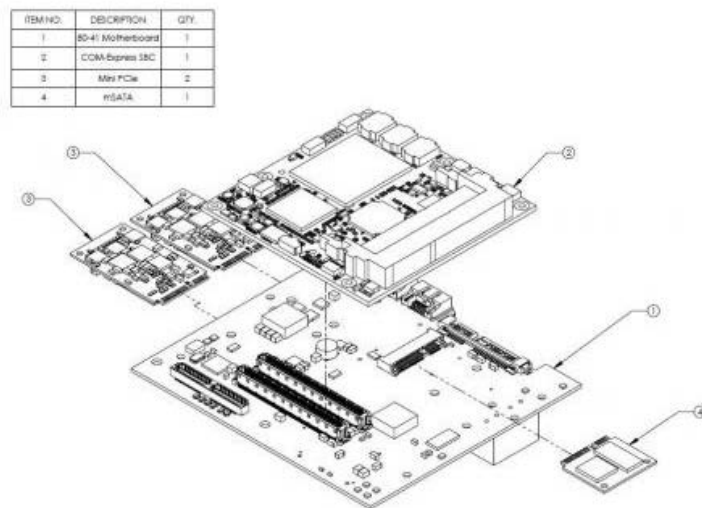

Figure 3
- Figure 3 - Exploded view of the DuraCOR 80-41 ...
(Figure 3).